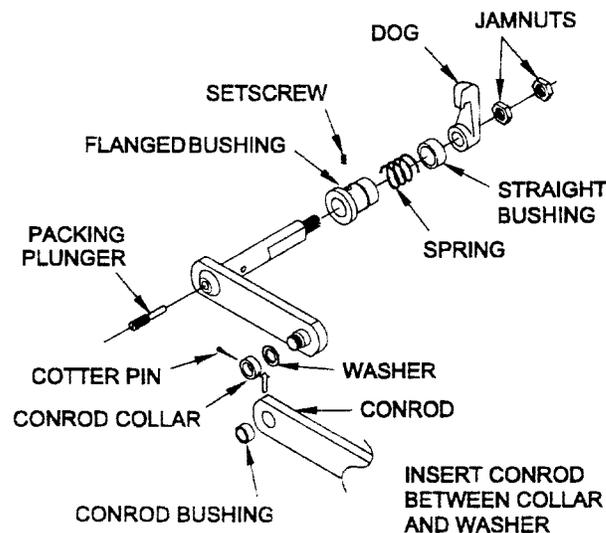
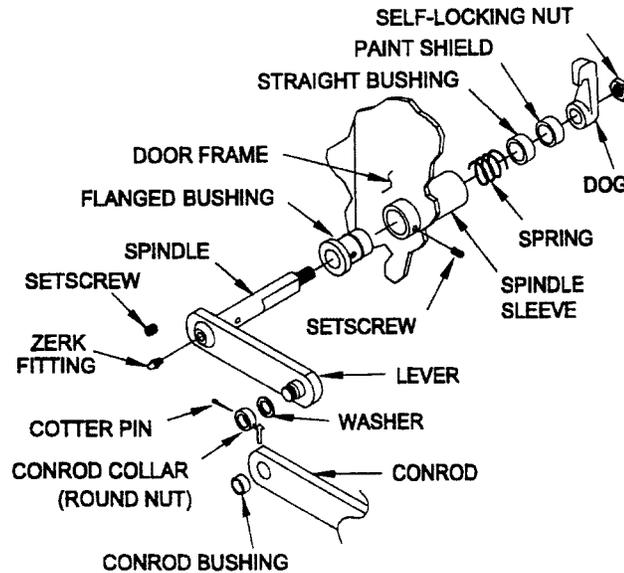

Figure 3-4. Quick-Acting Door Lever Assembly
Figure 3-4A. Quick-Acting Door Lever Assembly Modified by MACHALT 167-31010 (ECP-526)
- a. Remove the cotter pin, conrod collar (round nut), conrod, and washer from each conrod linkage. See figure 3-1, figure 3-4, and figure 3-4A.